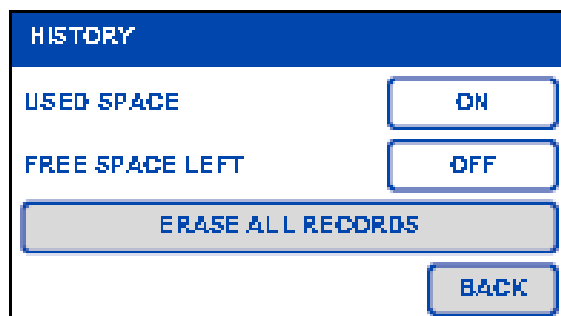

Figure V-38: Purge File from History Screen
8. Alternatively, to clear the data storage from the FP-24 5G without previously saving, press [ADMIN TOOLS] from the main menu, followed by [HISTORY]. On the History Screen, press [ERASE ALL RECORDS] to purge the data file (Figure V-38).